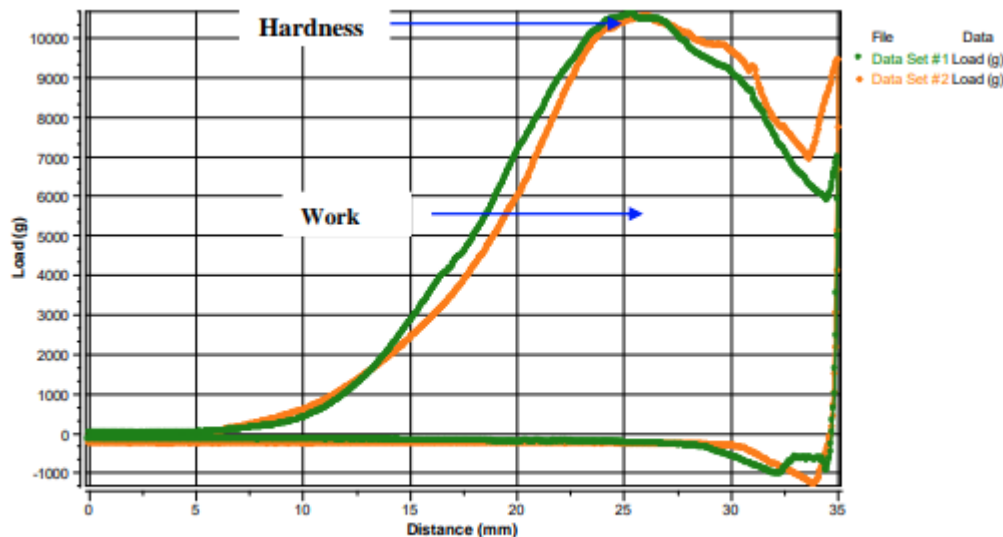

Figure 2
- Figure 2: Load vs. Distance graph provides additional measurements, including work done (area under the curve).
- Work Done: Area under the graph from start to target distance measures the energy required to break internal bonds within the sample; higher values indicate more energy needed (Figure 2).